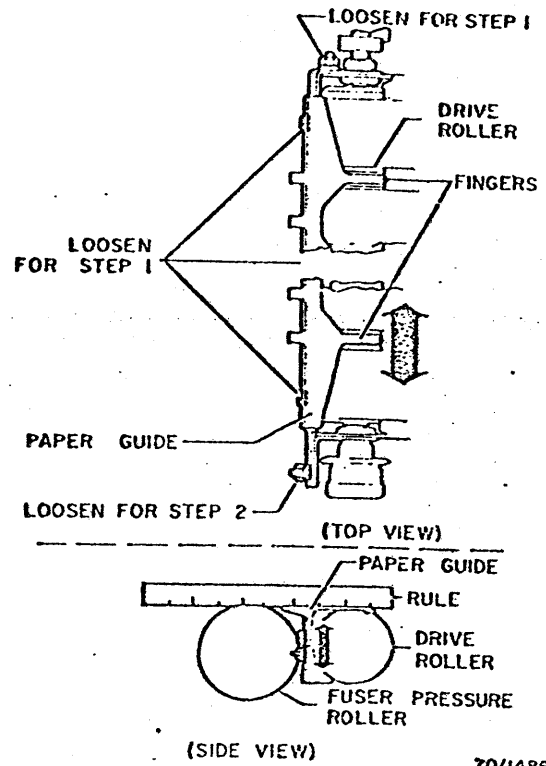

Fig. 3-130. Paper Guide Adjustment
1. Loosen three screws and adjust paper guide to center fingers in reliefs in rollers (Fig. 3-130).